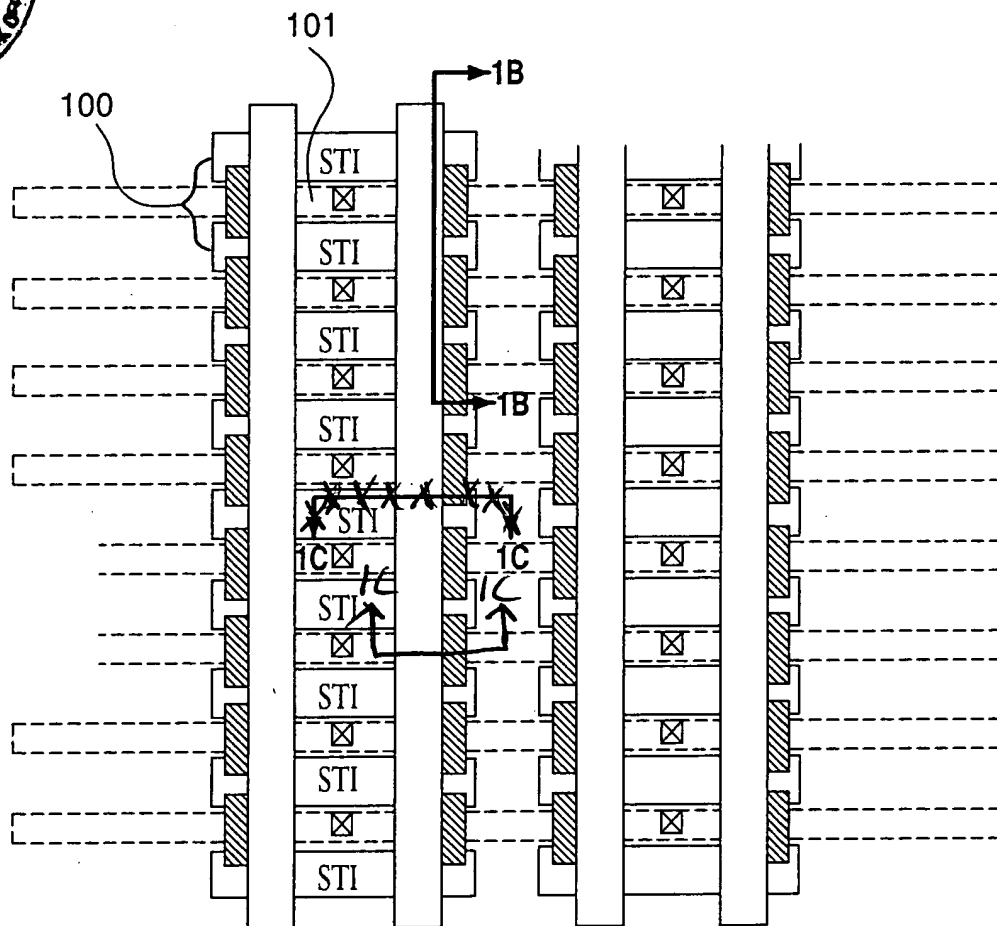

FIG. 1A
2. Certain errors have been discovered in Figures 1A, 4A, 4B, 8A, 8B, and 8C of the drawings. Replacement sheets correcting these Figures are included herewith along with a marked-up copy of the drawings showing the corrections made in the replacement sheets. The following discussion describes the corrections and where support for same can be found in the original drawings and the specification. No new matter is believed entered by these corrections.
In Figure 1A, line 1C-1C represents the location in FIG. 1A where the cross sectional view shown in FIG. 1C, is derived from. Line 1C-1C in FIG. 1A is incorrect because it extends across an STI region, but the cross sectional view of FIG. 1C shows the active region, without the STI region. Thus, line 1C-1C has been corrected in FIG. 1A to depict the section of FIG. 1A from which the cross sectional view shown in FIG. 1C is derived from.